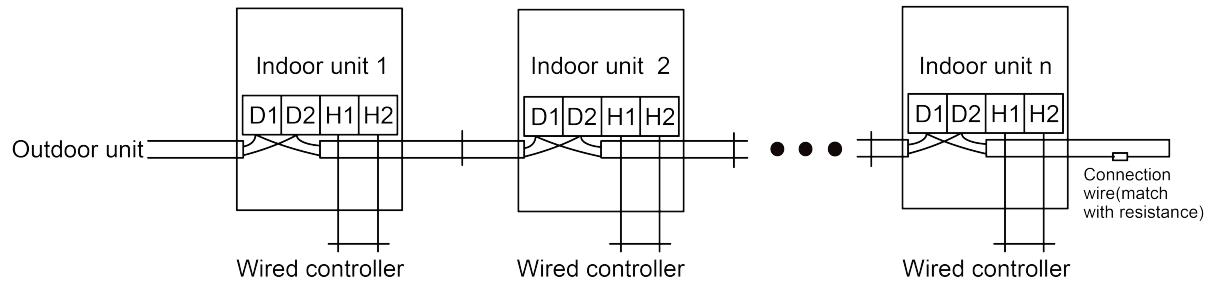

Fig 5.3.2
- (4) Secure the communication line with the wire clamp on the electric box.
(5) In order to ensure the reliability of communication between IDU and ODU and the communication among each IDU, add a matched resistance(supplied in a package before ex-factory) on the wiring board of the last indoor unit in a series connection. The matched resistance should be connected in parallel between terminal screw D1 and D2, as shown in Fig.5.3.2.